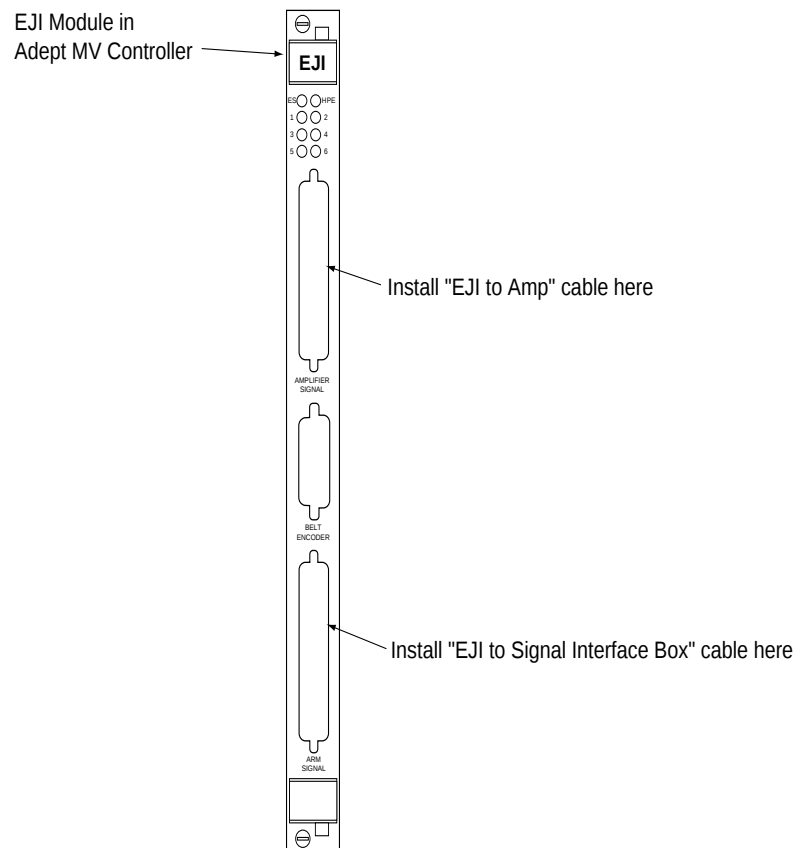

Figure 2-14. AdeptModules-to-EJI Cable Installation
The EJI-to-Amp cable is the interconnect between the controller and the power chassis. This cable assembly has a single plug on the controller end (for the EJI see Figure 2-14) and four plugs on the amplifier end (for the amplifiers).
1. Connect the cable end with the single connector to the connector marked Amplifier Signal on the EJI module (see Figure 2-14).